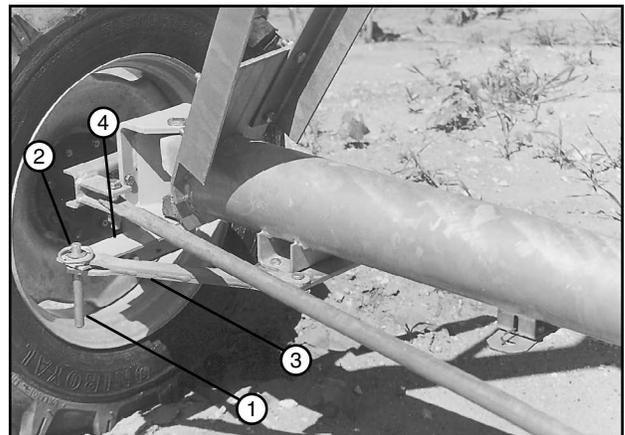

Figure 49-2 1. Lynch Pin
10. Remove lynch pin from each torque pin, then remove each torque pin and disconnect the tow link bars from the gearbox mount steering arms. Install each torque pin back in the steering arm hole and secure with lynch pin. See Figure 49-2.